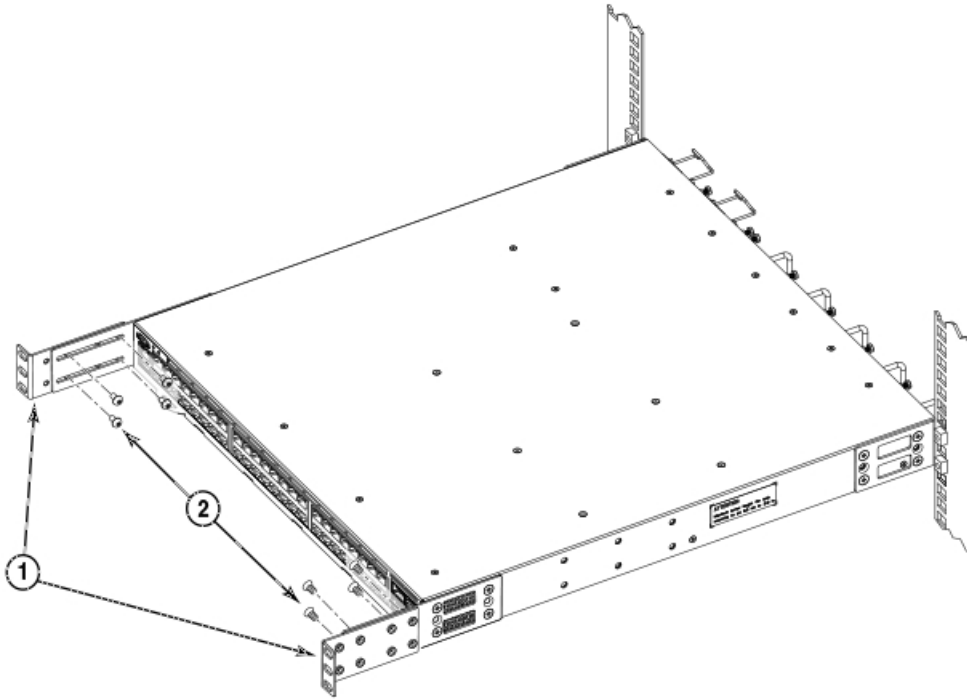

Figure 12. Attaching the rear brackets to the extensions at the front of the device
2. Slide the right rear bracket onto the right extension, as shown in Figure 12 on page 26.